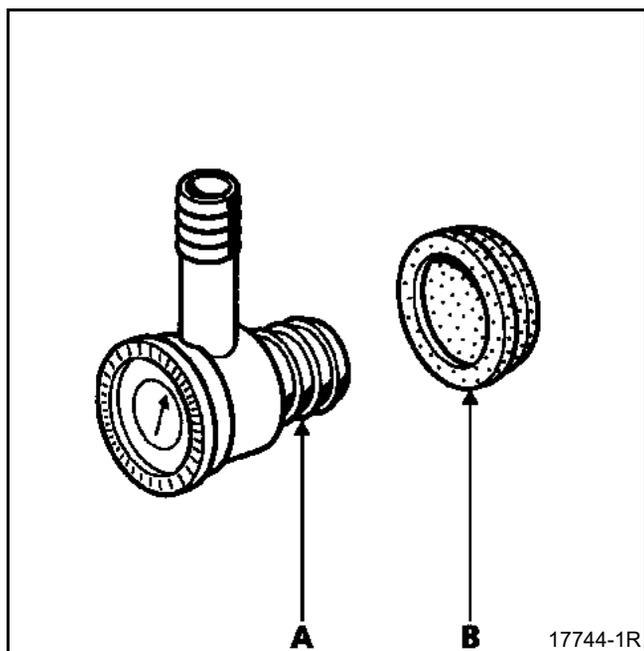

Fig. 4
4) Replacing the brake servo non-return valve (Fig. 4)
- the non-return valve (A) (Fig. 4) for the brake servo, being careful not to damage the sealing ring (B) (Fig. 4),